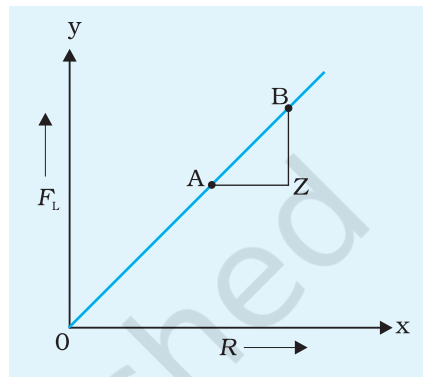

Fig. E 7.3: Graph between force of limiting friction F_L and normal reaction, R
Plot a graph between the limiting friction (F_L) and normal force (R) between the wooden block and the horizontal surface, taking the limiting friction F_L along the y-axis and normal force R along the x-axis. Draw a line to join all the points marked on it (Fig. E 7.3). Some points may not lie on the straight-line graph and may be on either side of it. Extend the straight line backwards to check whether the graph passes through the origin. The slope of this straight-line graph gives the coefficient of limiting friction (μ_L) between the wooden block and the horizontal surface. To find the slope of straight line, choose two points A and B that are far apart from each other on the straight line as shown in Fig. E 7.3. Draw a line parallel to x-axis through point A and another line parallel to y-axis through point B. Let point Z be the point of intersection of these two lines. Then, the slope μ_L of straight line AB would be